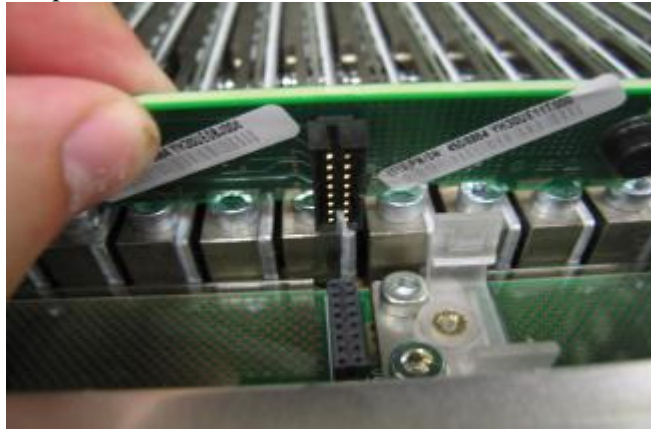

Figure 30 Replacing VPD card
STEP 44 Line up the pins of the new VPD card to the connector on the board as shown in Figure 30.